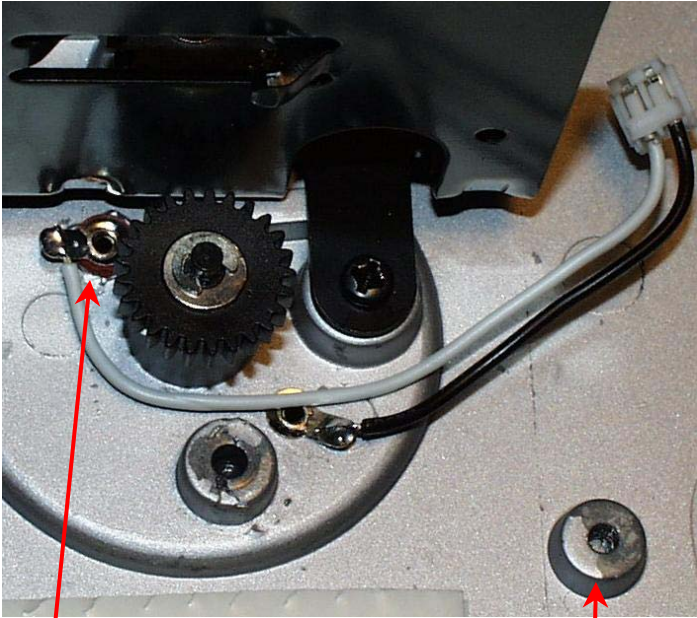

FIGURE 2
Step 4: Attach the driver wires (Figure 2)